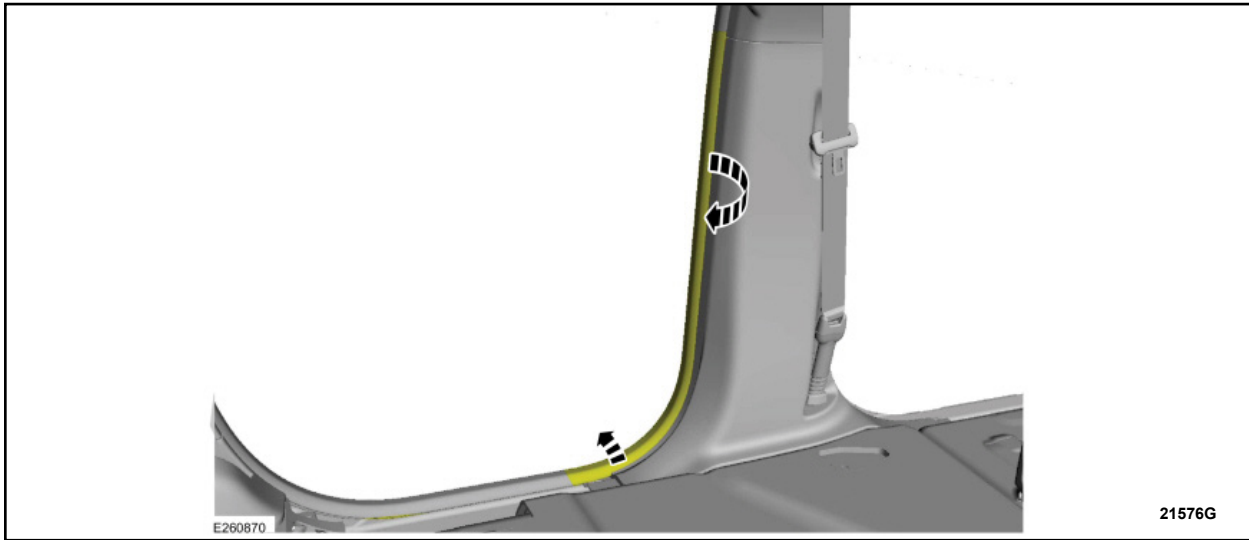

FIGURE 15
7. Position the rear door weatherstrip aside. See Figure 15.